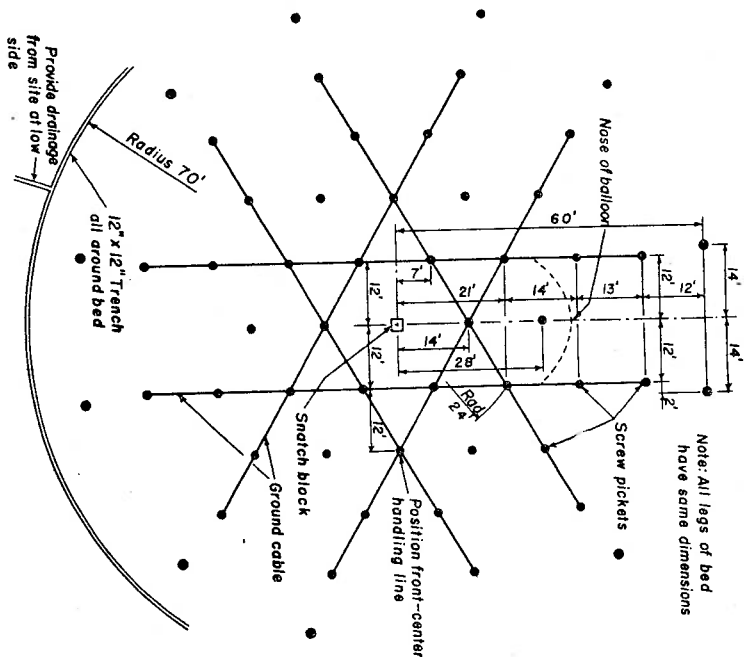

Figure 10.—Lay-out of six-way bed.
e. Six-way bed.—This type of bed will allow the balloon to be bedded down in six different directions. It is especially suited for flying the balloon from the center of the bed by means of a snatch block arrangement, with the winch located some distance from the ascension point. The arrangement at the center of the bed which permits flying the balloon with the winch offset is referred to as a central anchorage. Lay-out of a six-way bed is shown in figure 10.